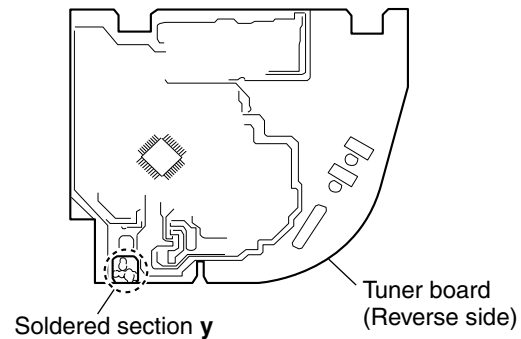

Fig.17
(See Fig.17.)
- Prior to performing the following procedures, remove the cassette mechanism assembly from the rear cabinet assembly. (See Fig.17 and 18 of "Rear cabinet section" on page 1-10.)